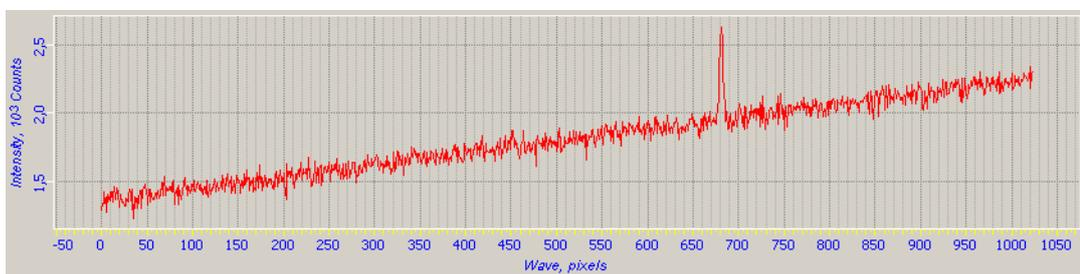

Fig. 10-22. Spectrum collected from the whole CCD-matrix
9. Collect the spectrum by clicking the **Single Scan** button (Fig. 10-22).